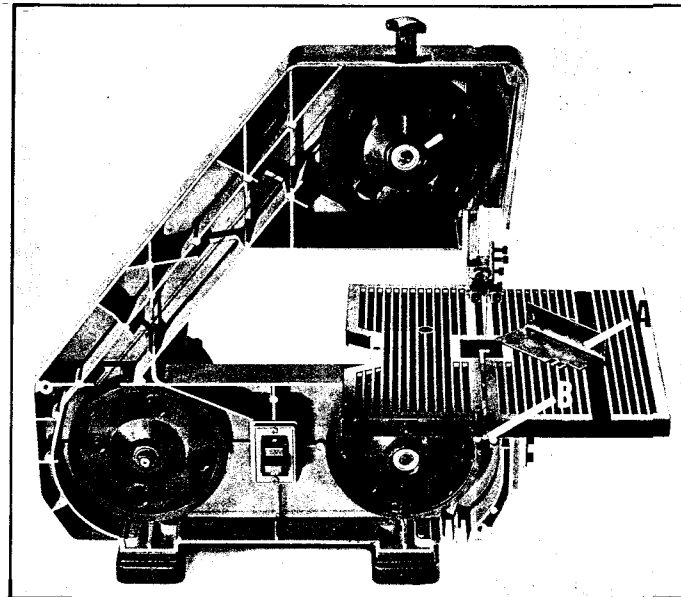

Fig. 18
2. Release blade tension, remove side cover, upper blade guard (A) and table alignment screw (B) Fig. 18.